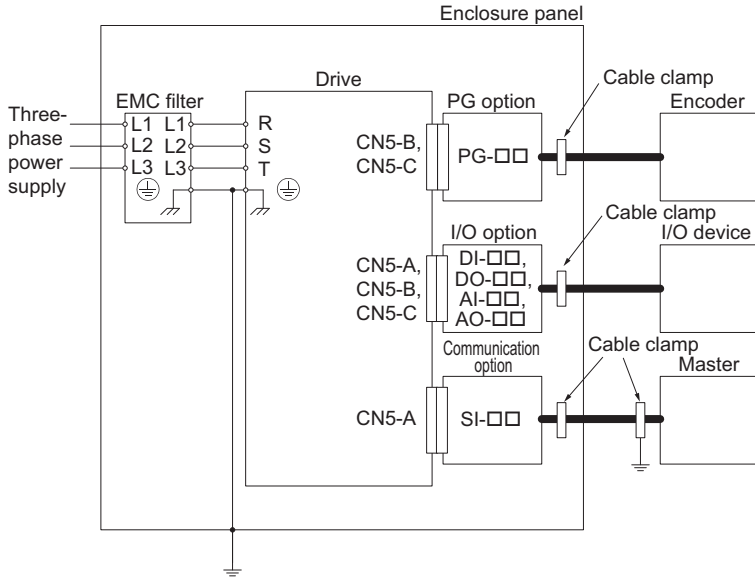

Figure 29 Option Installation for CE Compliance: 1000-Series, GA700, GA800, CR700, CH700, LA700
2. Keep wiring as short as possible and ground the largest possible surface area of the shield to the metal panel according to Figure 29 and Figure 30.